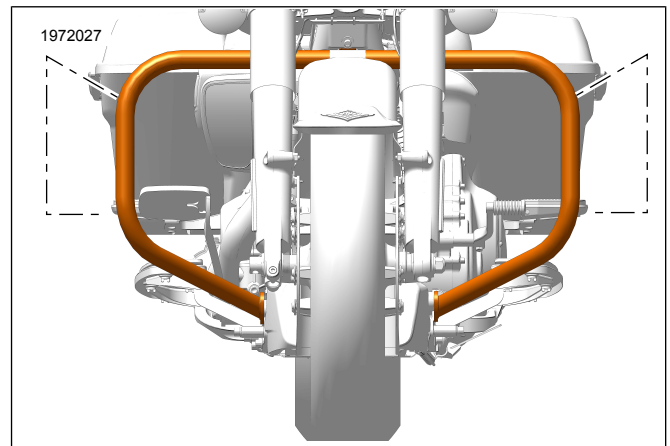

Figure 4. Standard Engine Guard Location
- b. See Figure 4. **Standard engine guard location** mount in these locations.